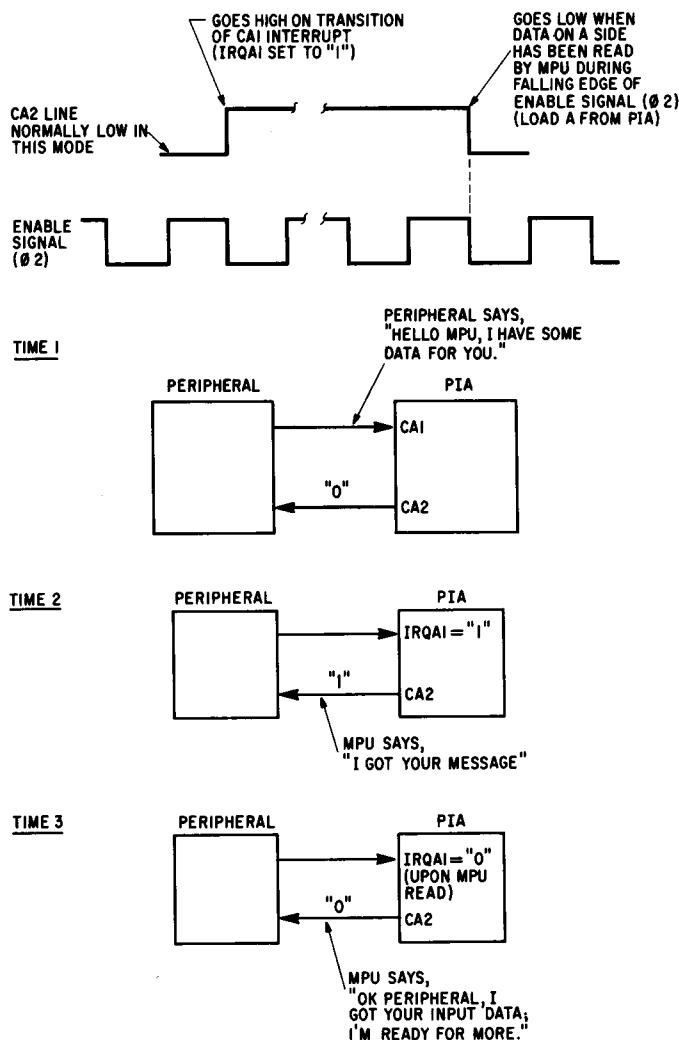

Fig. 9.17 Handshake mode
1. Bits 5, 4, and 3 of CRA = 100 (Handshake Mode) The handshake mode is used when a peripheral is transmitting data to the MPU. The peripheral must tell the MPU when it has some data, and the MPU must tell the peripheral when it has taken the data (see Fig. 9-17). The typical sequence is as follows: